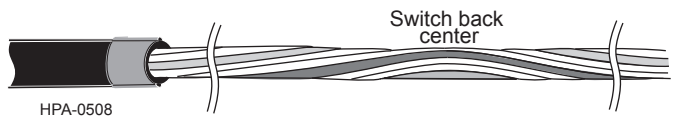

Figure 17
**Step 7:** Locate the switch back center where the direction of the buffer tubes' wrap around the central member switches to the opposite direction (Figure 17).